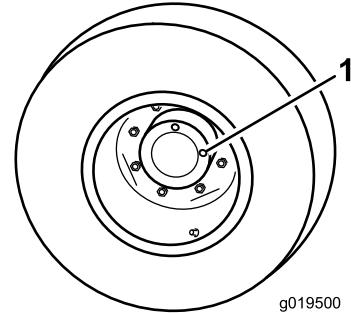

Figure 54
1. With machine on level surface, position the wheel so that 1 check plug is at the 12 o'clock position and the other is at 3 o'clock position (Figure 54).
1. Check/drain plug (2)
2. Remove the plug at the 3 o'clock position (Figure 54). The oil level should be at the bottom of the check-plug hole.